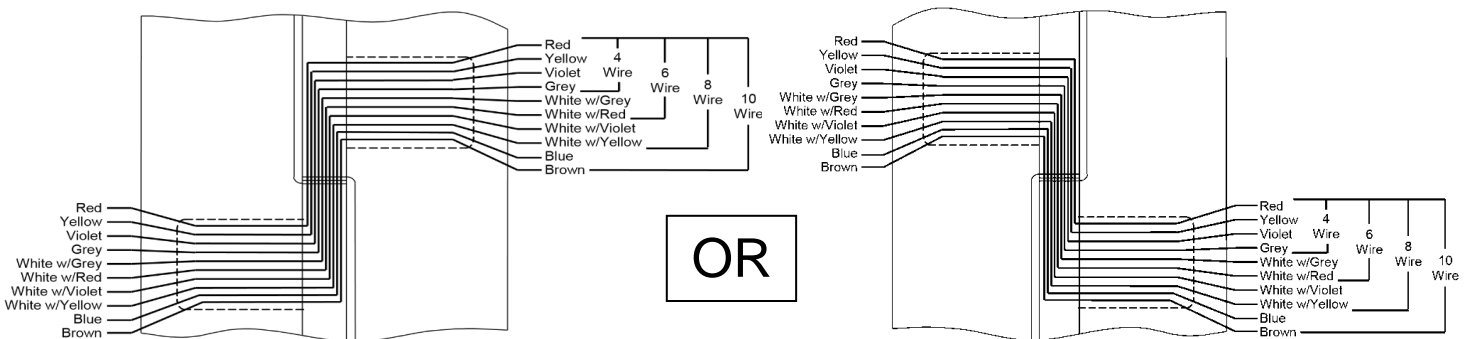

Figure 5: ETW security plate pair pattern depends on the hinge length, ETW center line location and handing
- Connect the system wires from the door to the appropriate leads of the hinge door leaf as described in the system wiring diagram found in Figure 5. Insulate the bare end of any unused wires.